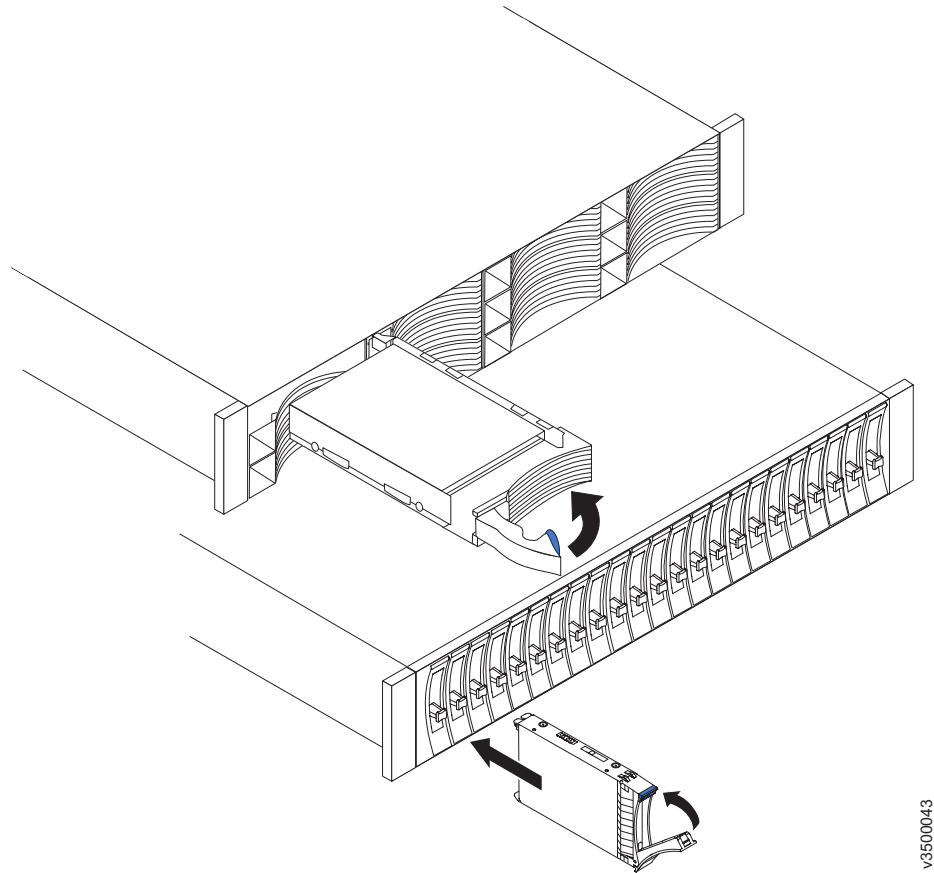

Figure 24. Installing a drive
4. Install the drive in the empty slot as shown in Figure 24.